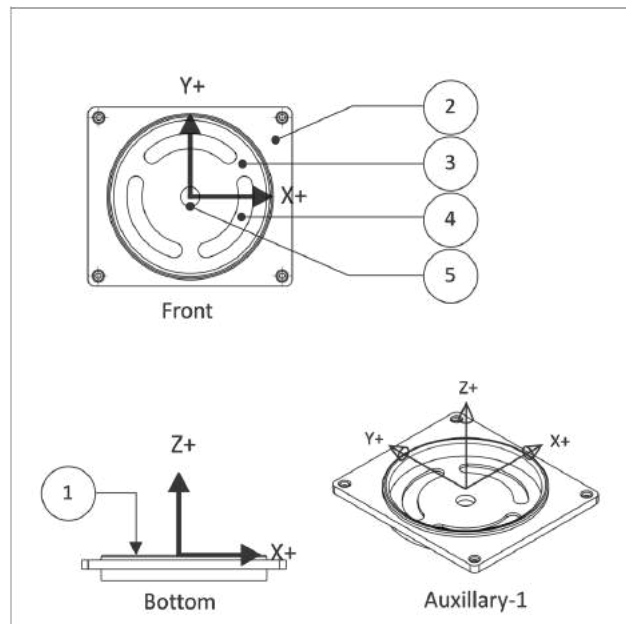

Figure 1: Prismatic Part (Orientation in CAD)
**Figure 1** shows a prismatic part. All machined features lie parallel to the XY plane. Each Z-level can be machined by positioning the tool at a fixed Z-level and then moving the XY axes to remove material. Every feature can be reached with the tool approaching either from the Front or Bottom views. There are several cutting planes in this example, including the model top (1), top of the face where the holes start (2), the bottom of the pocket (3) where the slots begin, the bottom of the slots (4), and the bottom of the hole through the center (5).